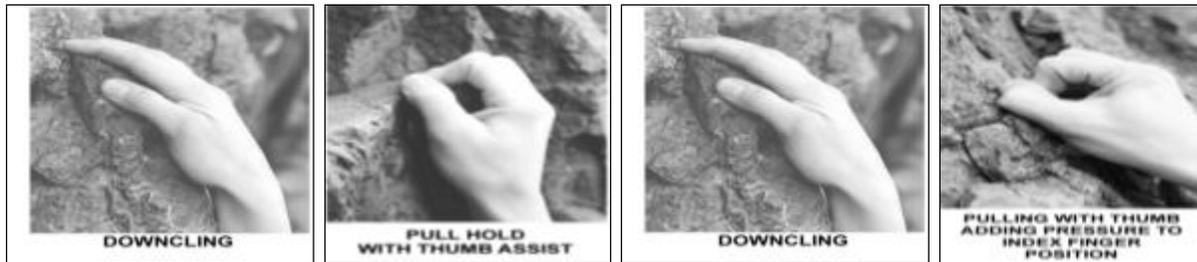

Figure 21-5
(2) Pull Holds. (Fig 21-5) Pull holds are those pulled down on and are the easiest holds to use. They are also the most likely to break. This is the most commonly sought handhold. The climber grasps the edge of a crack; corner or knob then leans slightly away from the hold while stepping upward. On small holds, the fingers form to fit the rock. A larger hold, preferably sloping inward, becomes a true handhold for the entire hand. The best and most comfortable of these are referred to as "jugs".